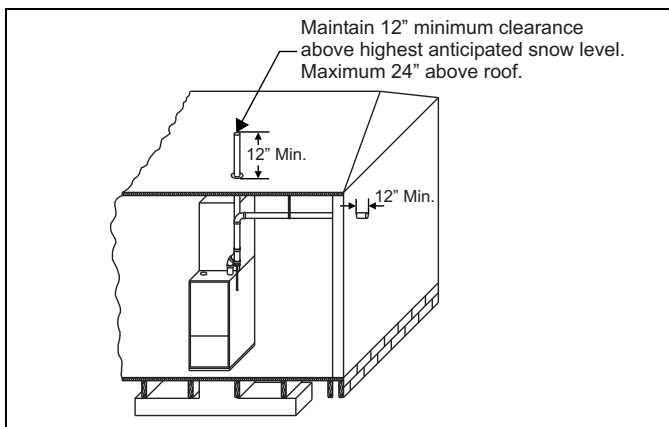
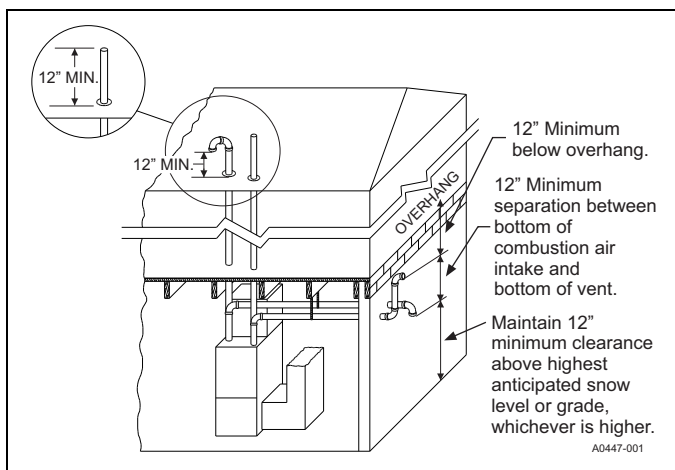
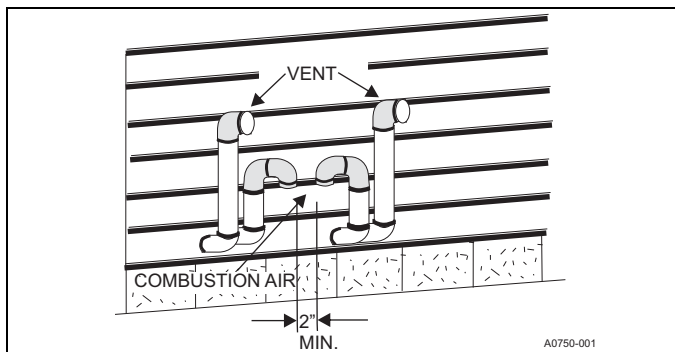

Figure 24: Termination configuration - single pipe
Figure 26: Termination configuration - two pipe basement
Figure 27: Double horizontal combustion air intake and vent termination
- Direct vent systems must be installed so the vent and the combustion air pipes terminate in the same atmospheric zone. See Figures 24 to 26.
The combustion air side of the single-pipe configuration shown in Figures 24 and 31 is referred to in these instructions as ambient combustion air supply. Follow the instructions for ambient combustion air installations, paying particular attention to the *Ambient Combustion Air Supply* section. The vent for a single-pipe system must be installed as specified in the *Vent Applications and Terminations* section with both vents terminating as shown in Figures 27 and 28. Each furnace must have a separate vent pipe. Under no circumstances can the two vent pipes be tied together.
The combustion air side of the two-pipe configuration shown in Figures 26 and 27 can be installed so the combustion air pipe terminates as described in the *Outdoor Combustion Air* or *Ventilated Combustion Air* sections. Follow the instructions for outdoor combustion air and the instructions for installing the vent system with the vent terminating as shown in Figures 27 and 28. The two-pipe system must have a separate combustion air pipe and a separate vent pipe for each furnace. **Under no circumstances** can the two combustion air or vent pipes be tied together. The combustion air and vent pipes must terminate in the same atmospheric zone.